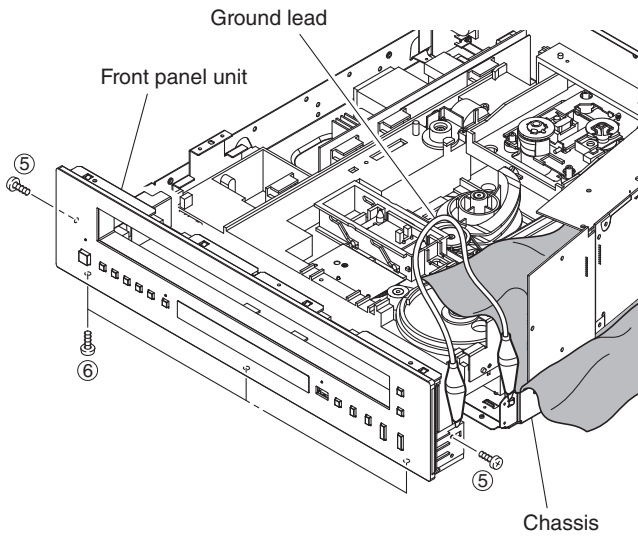

Fig. 3
- i. Remove 2 screws (5) and 3 screws (6). (Fig. 3)
- Connect the ground points of the front panel unit to the chassis and MAIN P.C.B. (ST301), OPERATION (9) P.C.B. (PJ601) and OPERATION (11) P.C.B. (G801) to the rear panel with a ground lead or the like. (Fig. 3)